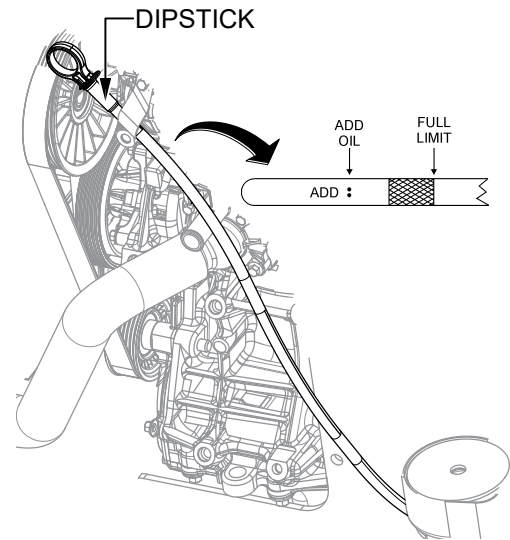

Figure 57. Engine Oil Dipstick
2. Pull the engine oil dipstick (Figure 57) out of its holder and wipe it with a clean rag.
4. Determine if engine oil is low. Oil should be between the upper and lower marks (Figure 57) on the dipstick.